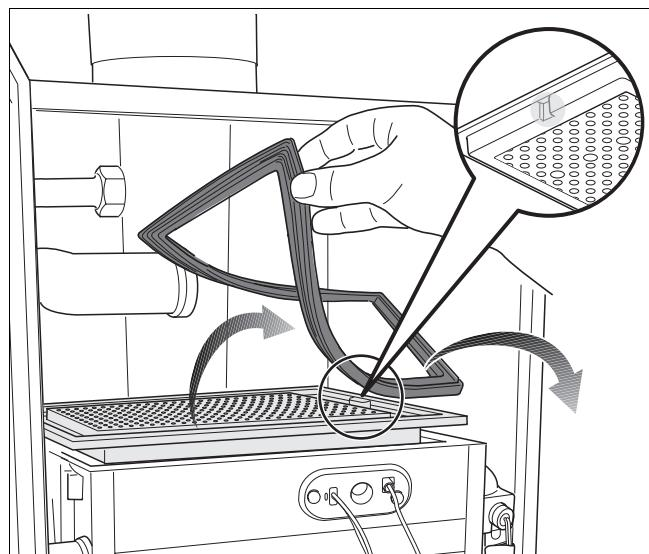

fig. 15 *Re-installing the burner plate*
- Refit all parts in reverse order. When re-installing the burner plate, make sure that the notch is on the right-hand side (fig. 15).